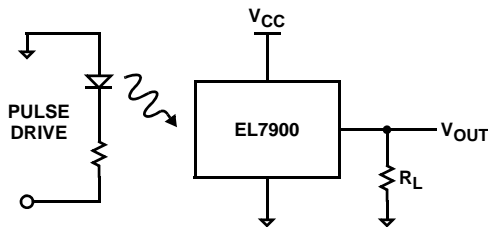

FIGURE 1. RISE/FALL TIME MEASUREMENT
- Switching time measurement is based on Figures 1 and 2.
For some applications, a load resistor is added between the output and the ground as shown in Figure 1. The output voltage can be expressed in the following equation: